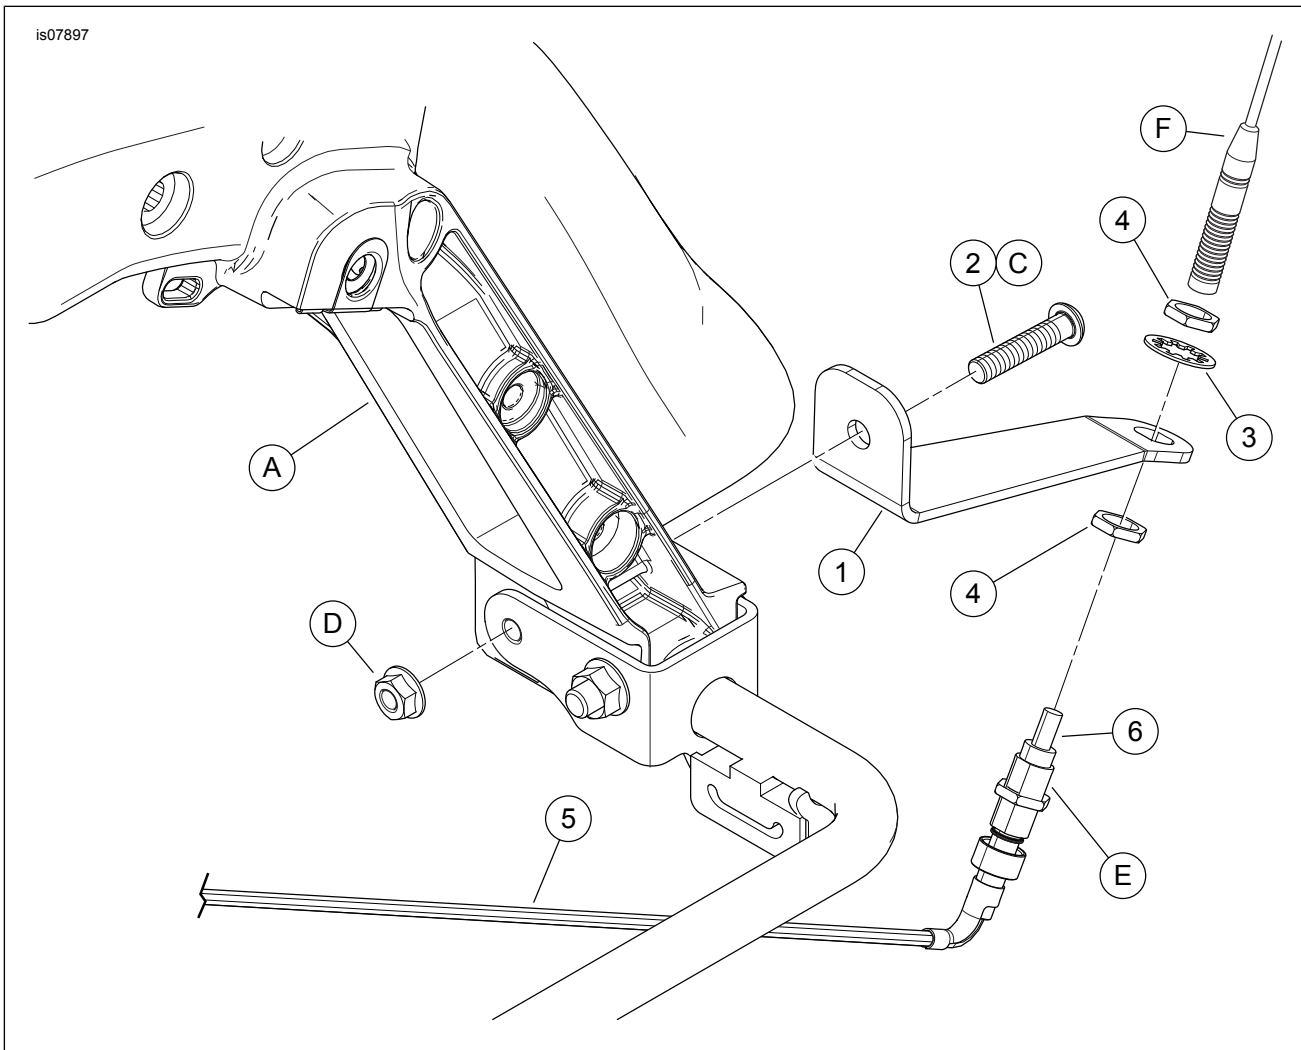

Figure 1. Service Parts, Antenna Relocation Kit
See Figure 1 and Table 1.
3. **ALL models:** See Figure 1. Remove the inboard TORX head screw (C) and nut (D) fastening the lower saddlebag support bar (B) to the rear fender support bracket (A). Discard the screw.
4. Obtain the **new** antenna mounting bracket (1) and button head screw (2) from the kit.
5. Position the antenna bracket as shown to the rearward side of the lower saddlebag support bar (B).
6. From the rear, insert the screw (2) threads through the antenna bracket, saddlebag support bar and rear fender support bracket.
8. Obtain the antenna mast base (joint assembly, Item 6), internal tooth lockwasher (3) and two thin hex nuts (4) from the kit.
9. Install the antenna mast base onto the 90 degree end of the antenna cable assembly (5). Install one nut onto the larger threads (E) of the antenna mast base.
11. Place the lockwasher onto the larger threads (E).
12. Install the second hex nut (4) onto the threads of the antenna mast base. Place a wrench on the upper nut. Tighten the lower nut to 8 N·m (6 ft-lbs).